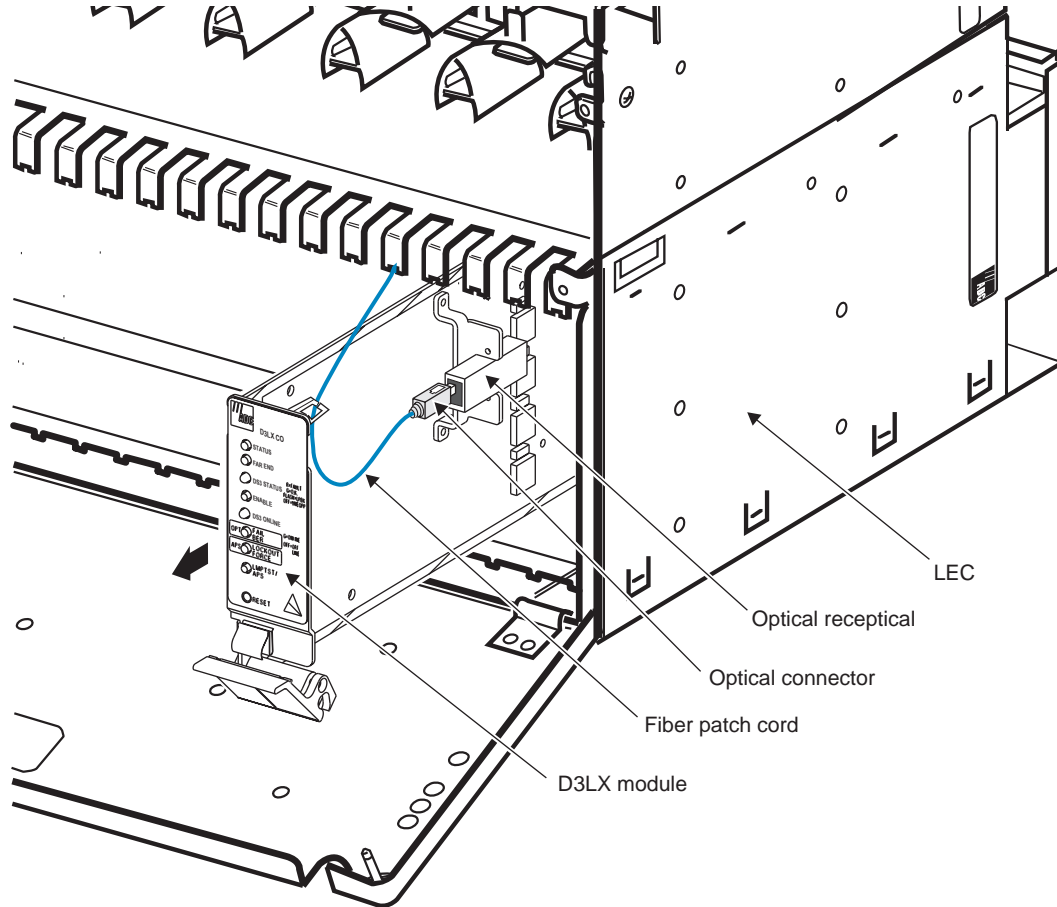

Figure 19. Removing a D3LX Module—D3LX CO Shown
- 1 For SC-type connectors: pull down on the retaining latch and withdraw the unit halfway out of the chassis while preventing the fiber-optic cord from binding. Release the fiber-optic patch cord from the optical receptacle by gently pulling back on the locking mechanism and remove the cord as shown in Figure 19.